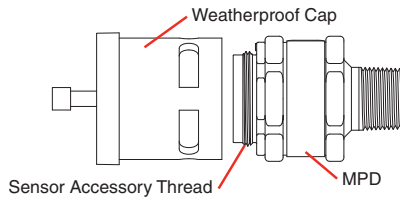

Figure 3. MPD, Adaptor and Weatherproof Cap
- a. Collecting Cone (Figure 3).